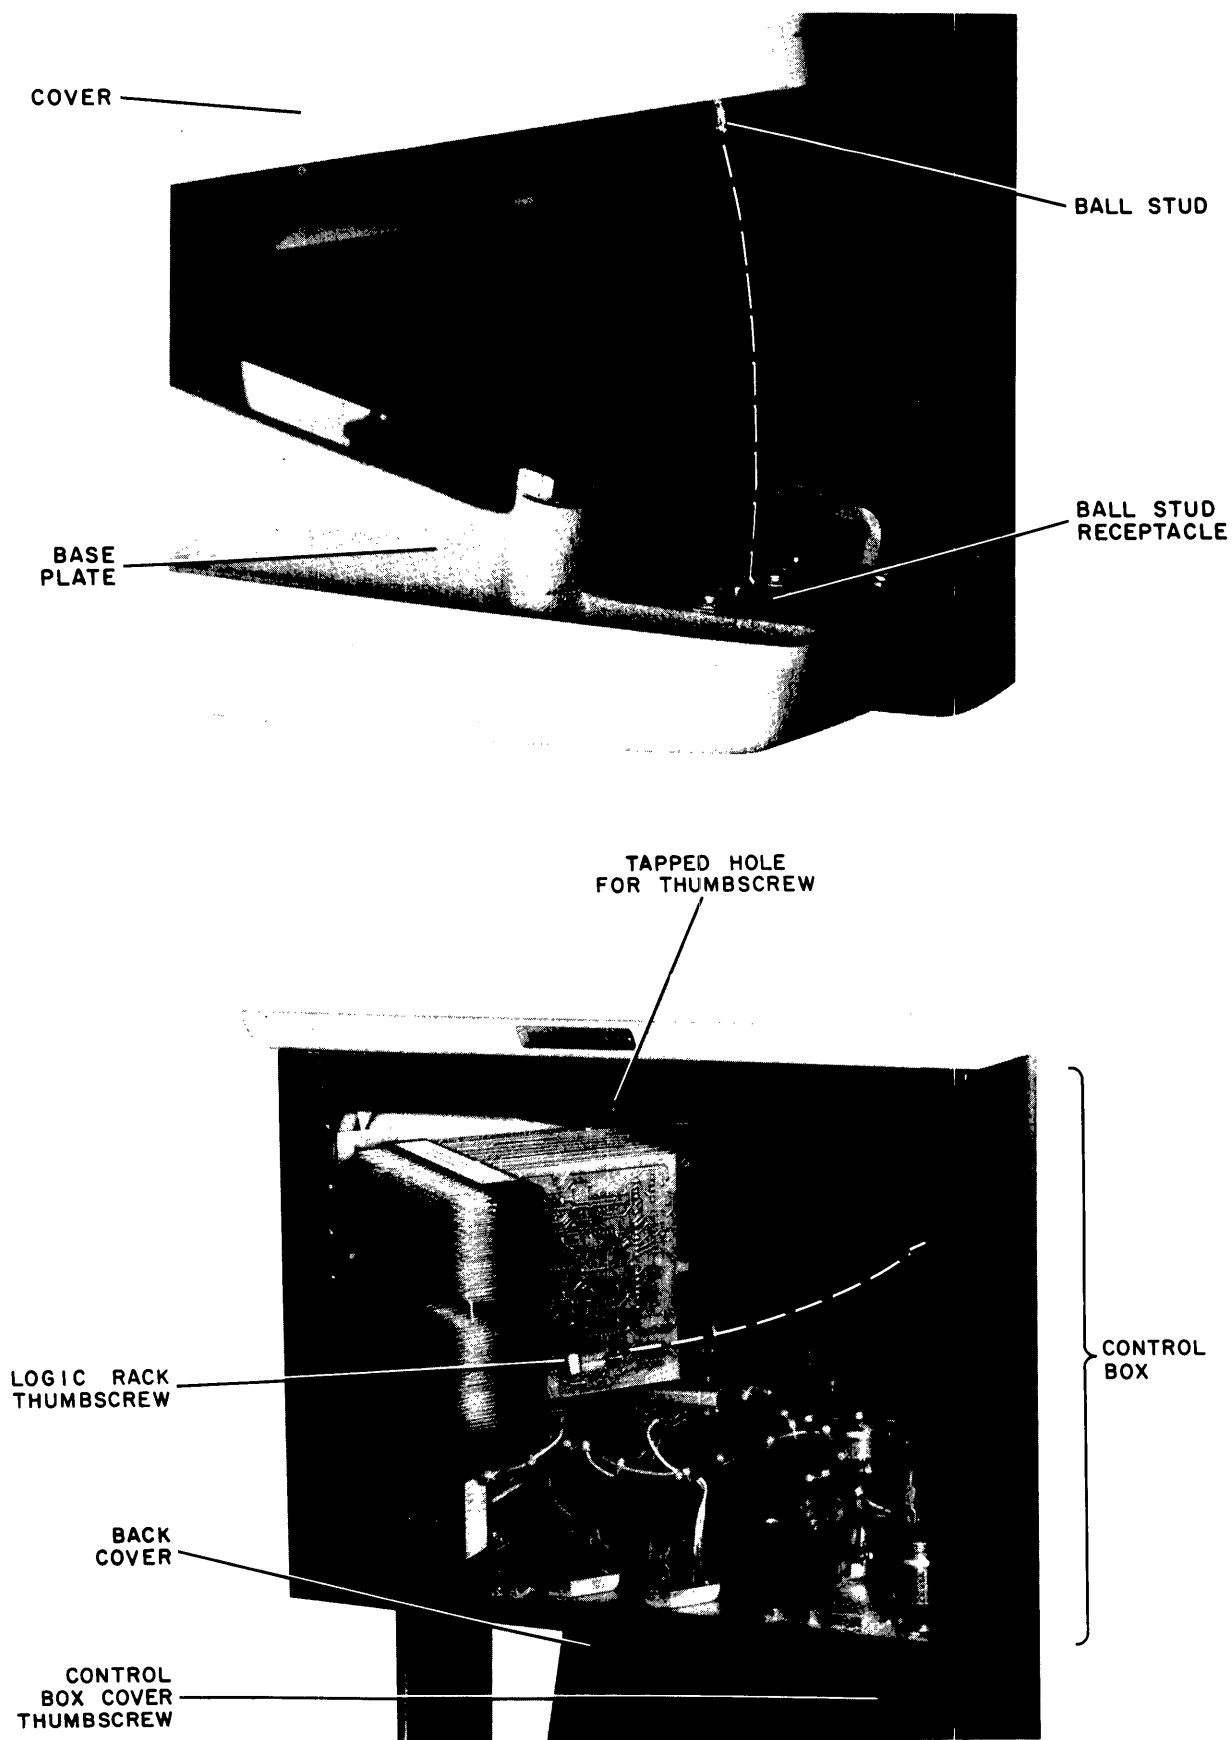

Figure 5-1 LA30 Component Access
A preventive maintenance (PM) schedule has been established to ensure optimum operation of the LA30 DECwriter. The PM schedule is presented in Table 5-2. The cleaning, inspection, and replacement tasks listed in Table 5-2 are explained in Paragraphs 5.2, 5.3, and 5.4, respectively. Data obtained while performing preventive and corrective maintenance should be entered in the LA30 maintenance log book. Access to the interior components of the DECwriter is gained by snapping the cover open at the two front ends (Figure 5-1). Access to the rear control box assembly is gained by removing the back cover (one thumbscrew) and a thumbscrew fastener on the logic rack, which then swings out on its hinges.